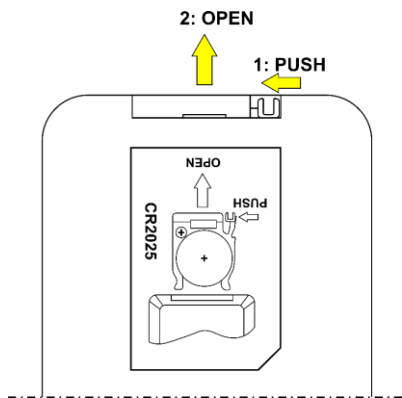

Fig. 12
- 01) Press on one side of the remote and open the **battery housing** (Fig. 12).